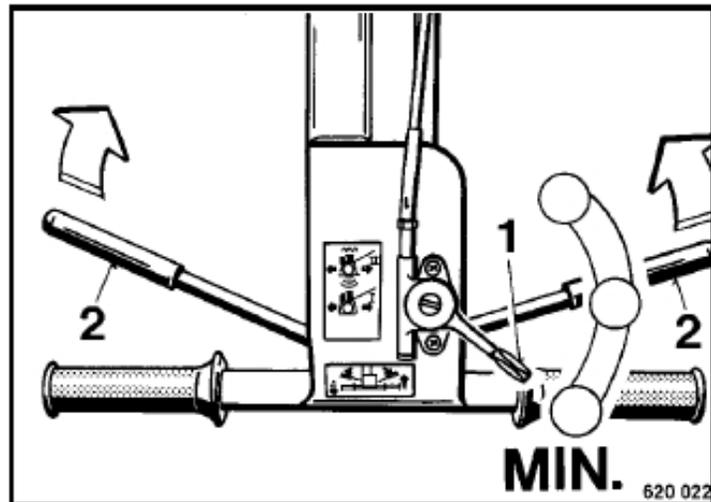

Fig. 19
- 1 Release the travel control lever 2 (Fig. 19) slowly.
- 1 Set the throttle lever (1) to "MIN" (idling speed) and let the engine idle for a while for temperature equalisation.